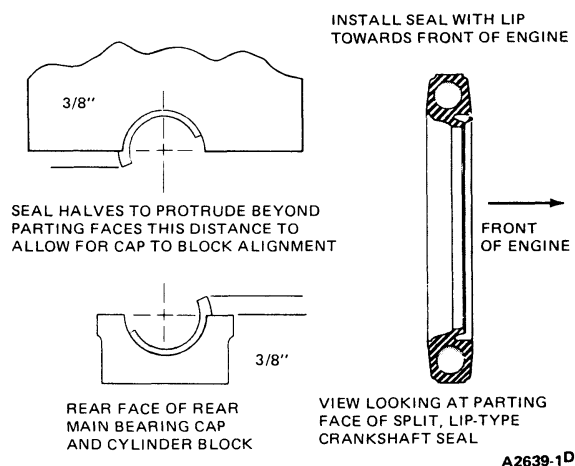

FIG. 29 Crankshaft Rear Oil Seal Installation
7. Install the new seal as shown in Fig. 29.